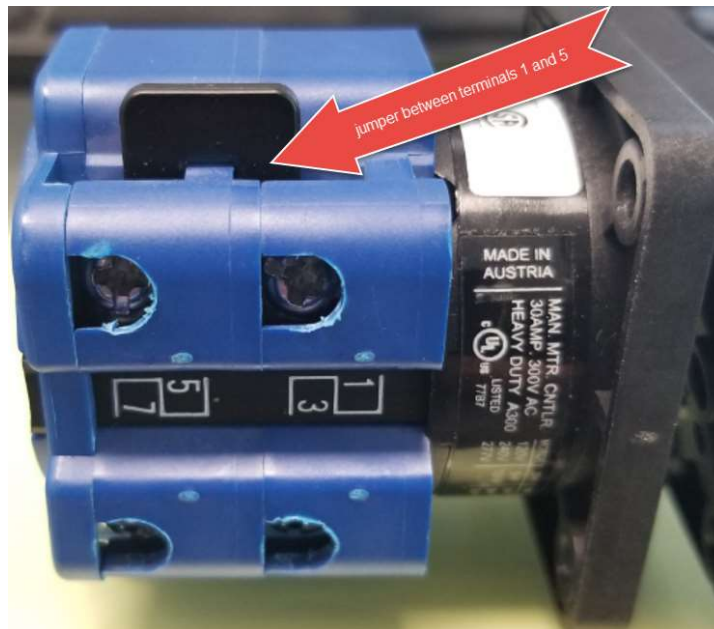

Figure 1
3. Tighten **all** screw terminals on the STOP switch, including those that are unused. Pay particular attention that screw terminals 1 and 5 are tightened and that the jumper connecting them is installed (see *Figure 1* below).